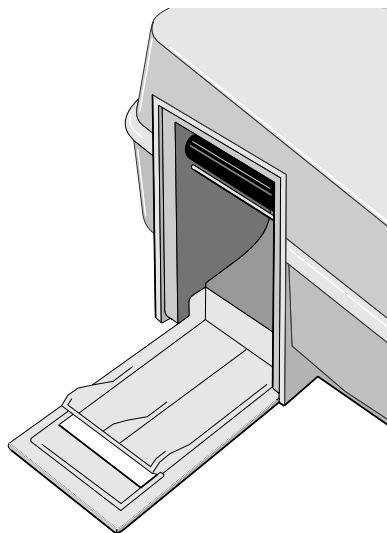

Figure 8-3. Opening the paper compartment
- * Push the cover of the paper compartment upward and fold it out (Figure 8-3).